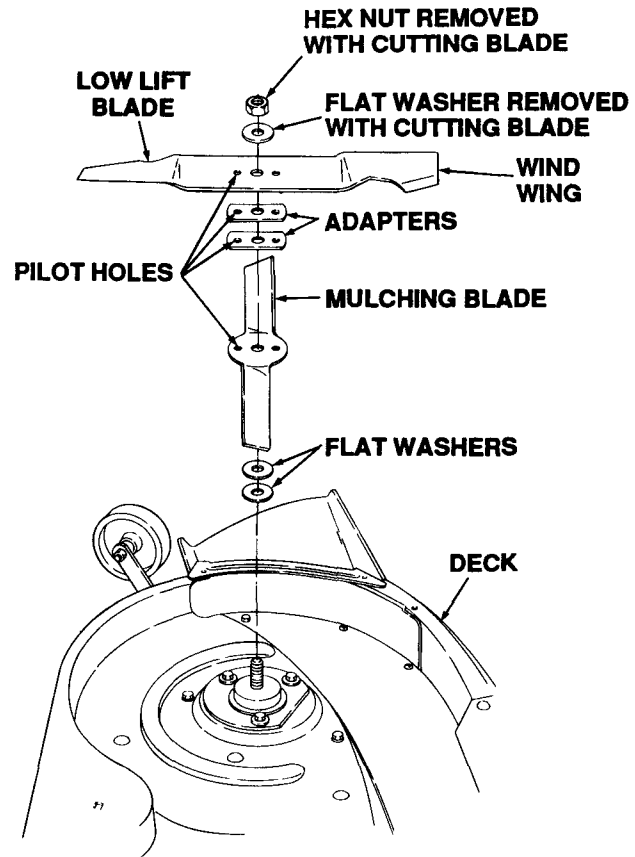

Figure 7-7. Installing Blades and Hardware.
1. Assemble the blades and hardware on the spindle shafts as follows (see Fig. 7-7):